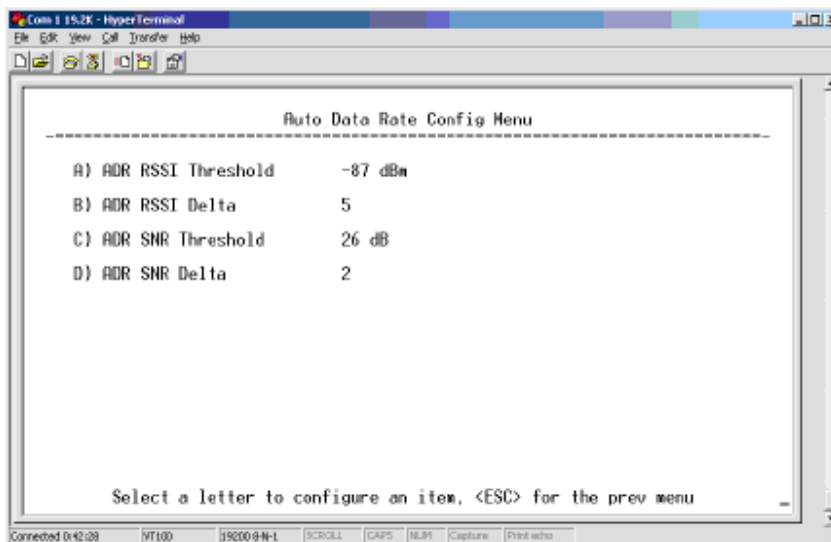

Figure 2-28. Auto Data Rate Submenu
- **Auto Data Rate Configuration**—This selection brings up a submenu as shown in Figure 2-28. For the settings in this submenu to have any effect, the Data Rate menu item (Page 52) must be set to **AUTO**.
Using the example of Figure 2-28, assume the current RSSI is -87 dBm. An RSSI reduction of more than 5 dBm (more negative RSSI number) would cause a data rate change from high speed to standard speed. Once the data speed has changed to standard speed, an RSSI *increase* to the level of -82 dBm would be required for the radio to switch back to high speed. This provides an operational “window” or hysteresis range over which the data speed stays constant despite minor changes in signal strength.
The SNR (signal-to-noise ratio) threshold and delta operate in the same manner described above, with the exception that the units are expressed in relative dB instead of dBm. In the example of Figure 2-28, a drop of 2 dB from a level of 26 dB would result in a data rate change from high speed to standard speed. For the radio to return to high speed, the SNR would need to increase to 28 dB. (See *Glossary for definition of SNR.*)
Figure 2-28 shows the default values for RSSI and SNR parameters but these may be changed to optimize performance in your environment. In properly designed systems, experience has shown that RSSI levels between -50 dBm and -90 dBm provide reliable operation, provided the signal-to-noise ratio is 17 dB or above. Tailoring the thresholds with these baseline values in mind, can provide improved performance in your system.